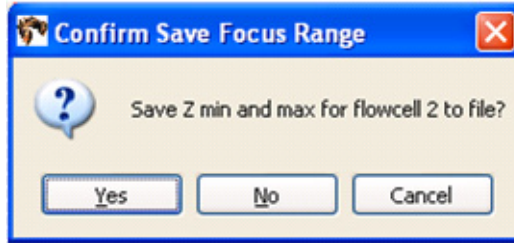

Figure 92 Click **Yes** when the Save Focus Range Warning displays.
11. Click **Yes** when the warning displays (see Figure 92).